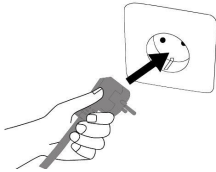
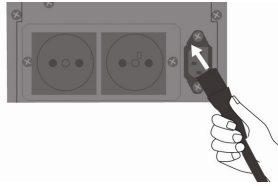

Figure 3.1
Figure 3.2
- a. For models with patch cable: Firstly, plug in the patch cable to mains socket (Figure 3.1), later plug it in to input socket (Figure 3.2).